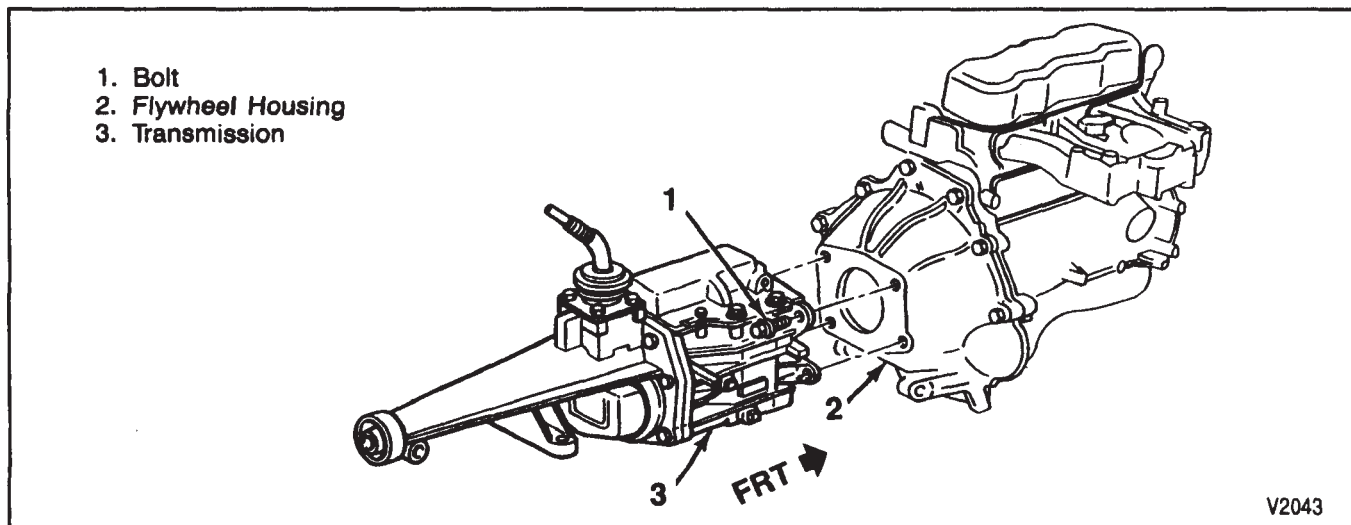

Figure 1—Transmission Installation (Borg-Warner T-5 Models)
**←→** Remove or Disconnect (Figures 1 and 2)
**→←** Install or Connect (Figures 1 and 2)
**↔** Remove or Disconnect (Figures 1, 2, 5, 6, 7, and 8)